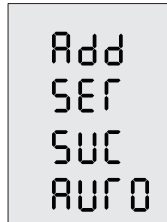

Figure 5-14
Step5: After pairing, the LCD screen will display as Figure 5-14 for 5s, then returning to home page automatically.